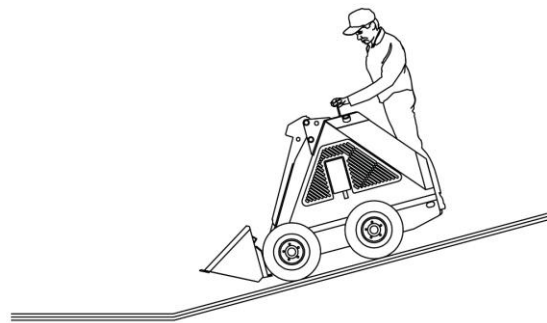
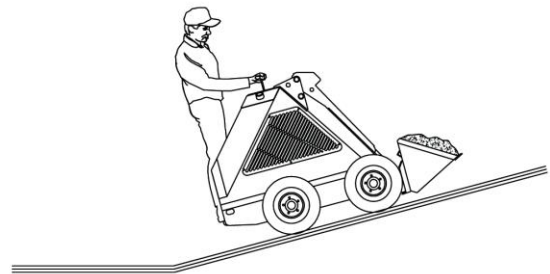

Fig. 9 – Empty Bucket
Fig. 10 – Full Bucket
5. When driving on slopes keep the heaviest end of the Walk-Behind upward. When driving on a slope with an empty bucket, back up the slope in reverse, and drive down a slope forward as in Figure 9. When driving on a slope with a load, drive up the slope forward and back down the slope in reverse as in Figure 10.